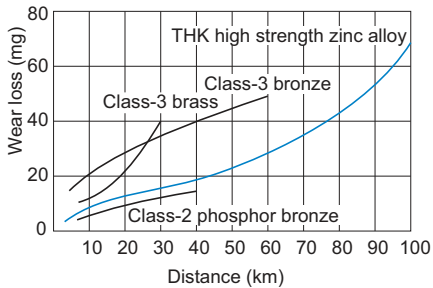

Fig. 1 Wear Resistance of the High Strength Zinc Alloy
With a sliding bearing, a pV value, which is the product of the contact surface pressure (p) and the sliding speed (V), is used as a measuring stick to judge whether the assumed model can be used. Use the corresponding pV value indicated in Fig.1 as a guide for selecting a lead screw nut. The pV value varies also according to the lubrication conditions.
Fig.1 pV Value